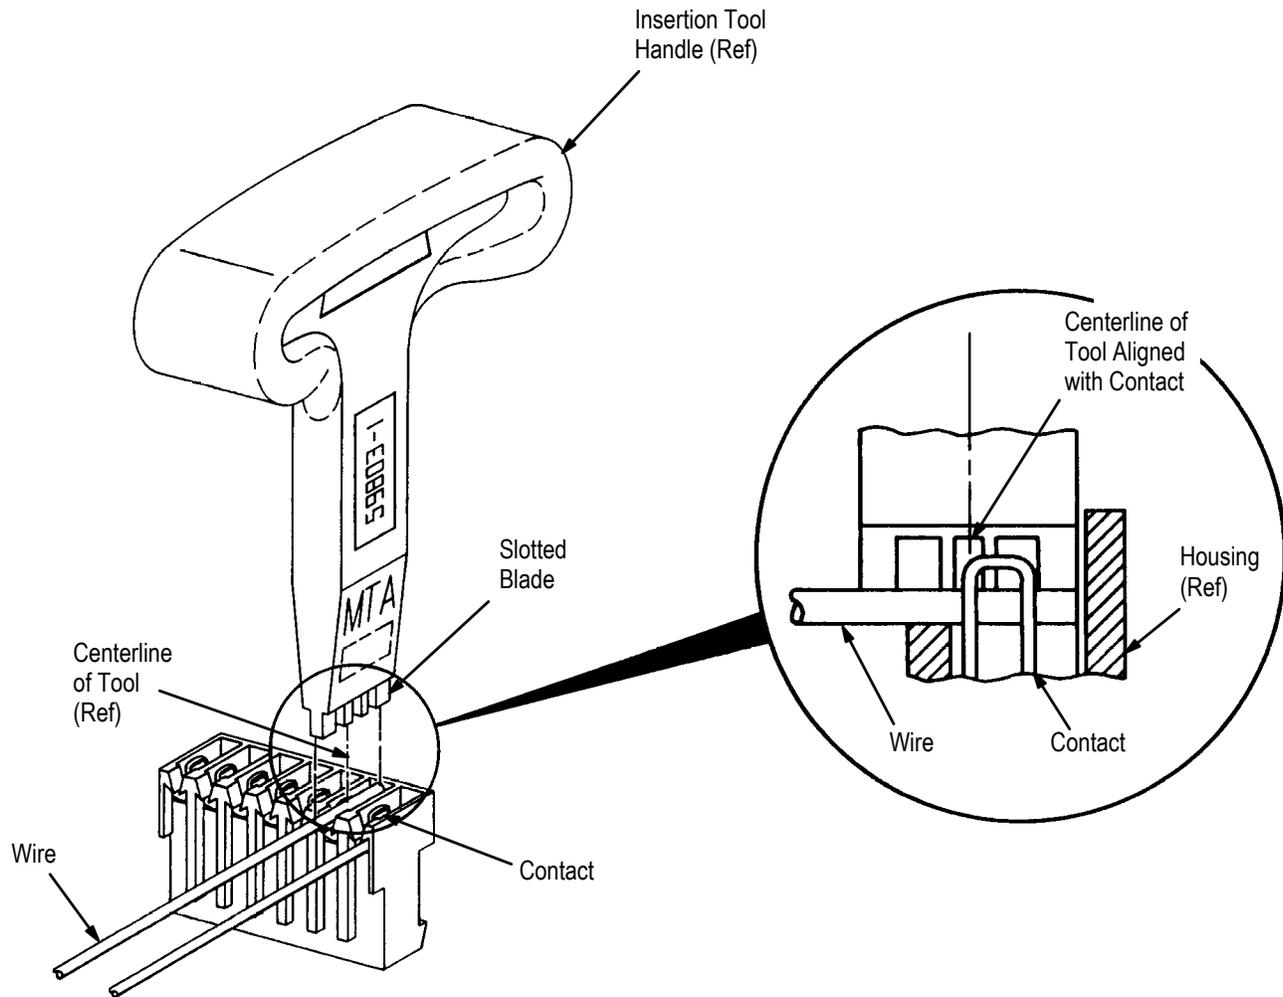

Figure 2
3. INSERTION PROCEDURES (Figure 2)
3. Place appropriate tool on wire over contact so that the centerline of the tool matches the contact. The tool must be positioned as shown in Figure 2.